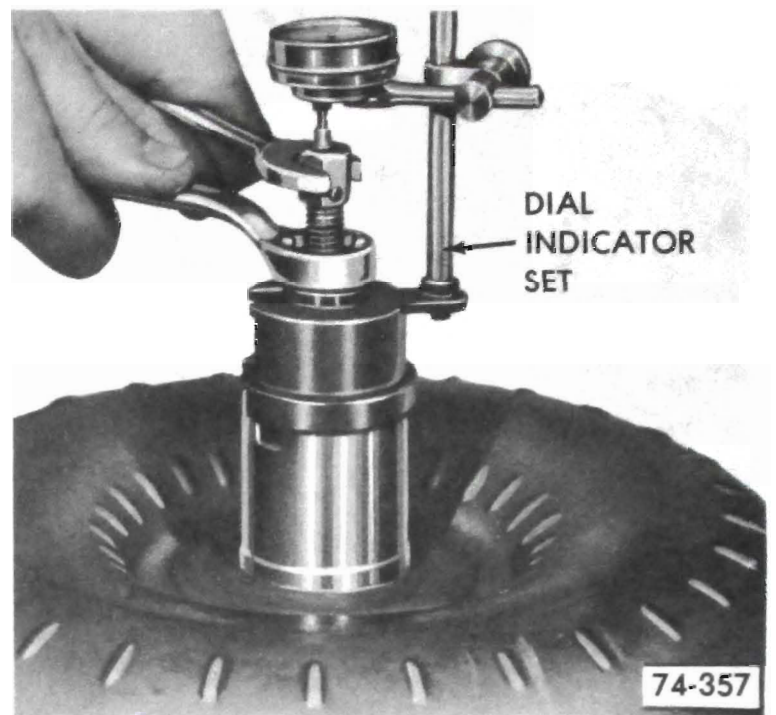

Figure 75-286
4. Loosen hex nut. See Figure 75-286. When nut is fully loosened the reading obtained on the dial indicator will be converter end clearance. If clearance is .050" or over and the oil has the appearance of